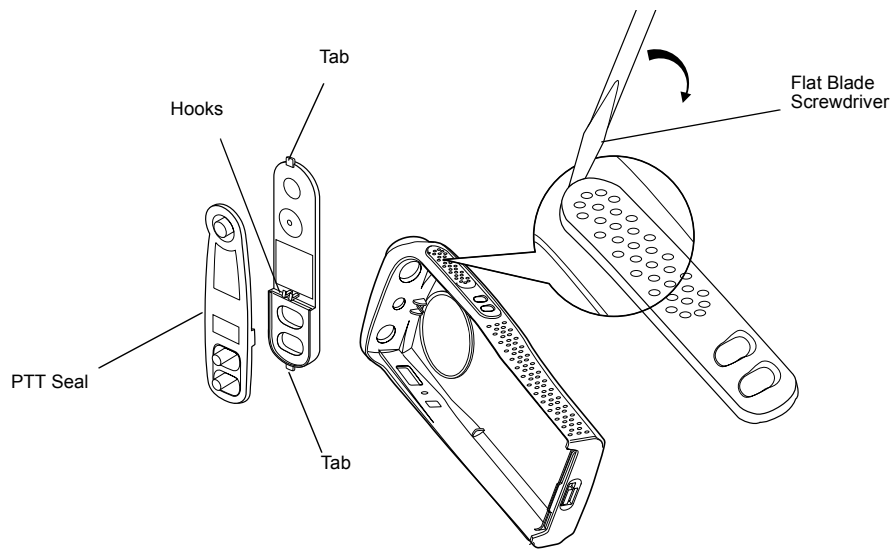

Figure 8-7. PTT Removal
1. If required, the PTT (Figure 8-7) can be disassembly using a small screwdriver, as follows: